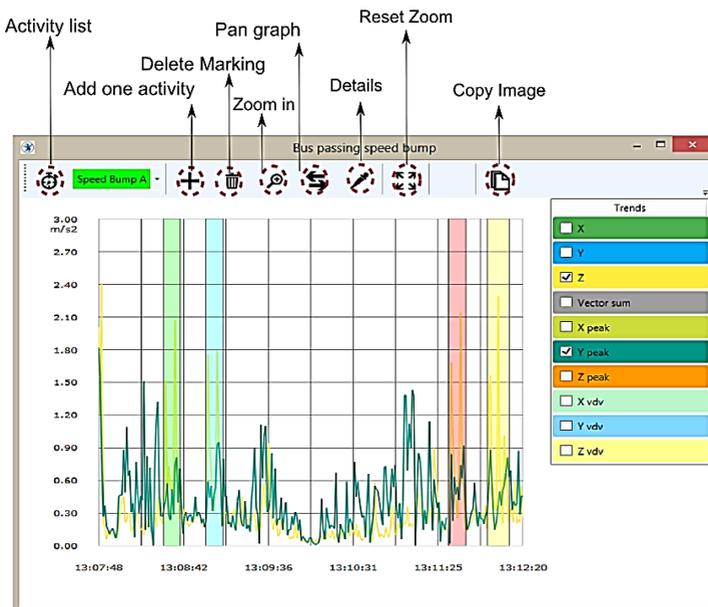

Figure 24: Graph window
3. Drag and mark the area. (See figure 24)